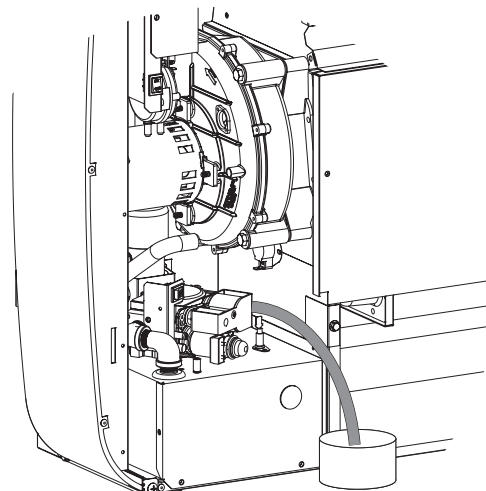

Figure 63
5. Drain the end into a container. Make sure there are no sags or kinks in the hose that could prevent draining. **See Figure 63.**